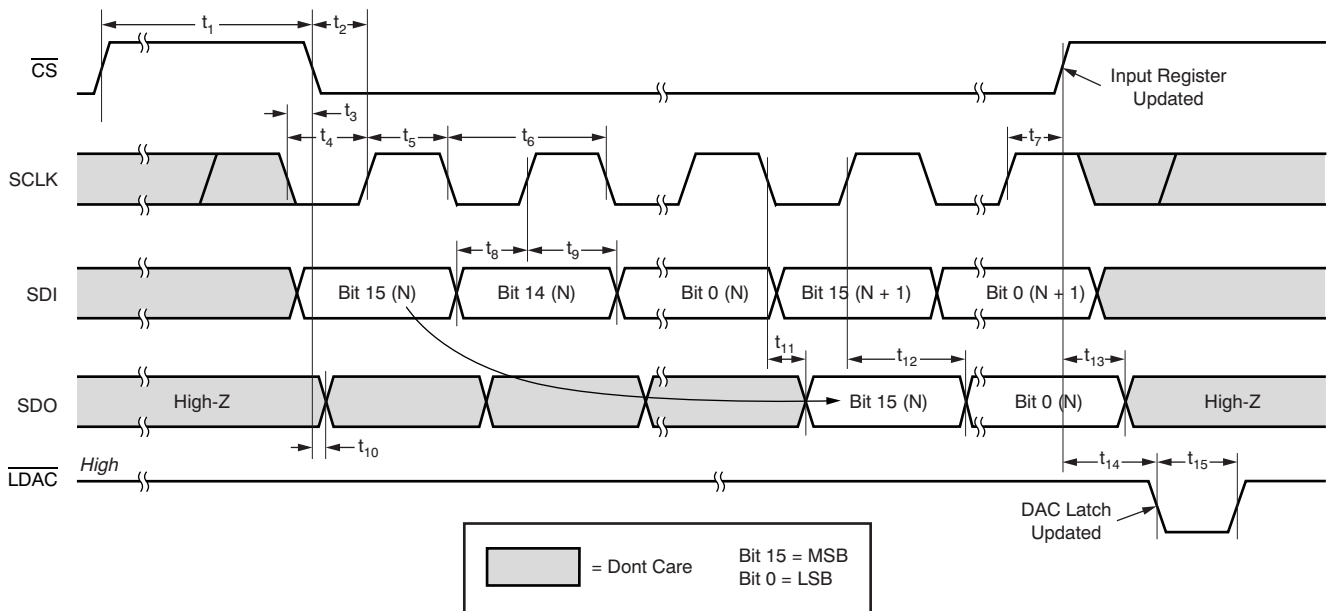

Figure 3. Timing Diagram of Daisy Chain Mode, Two Cascaded Devices
- (1) All input signals are specified with $t_R = t_F = 2\text{ns}$ (10% to 90% of IOV_{DD}) and timed from a voltage level of $IOV_{DD}/2$.
- (2) Specified by design. Not production tested.
- (3) Sample tested during the initial release and after any redesign or process changes that may affect these parameters.
6.7 Timing Characteristics for Figure 2 and Figure 3 ^{(1) (2) (3)}